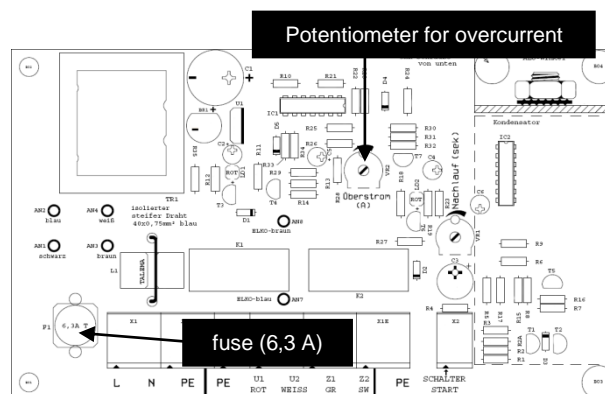

Figure 5: Illustration of the switch box
3. Change the fuse. (see Figure 5)